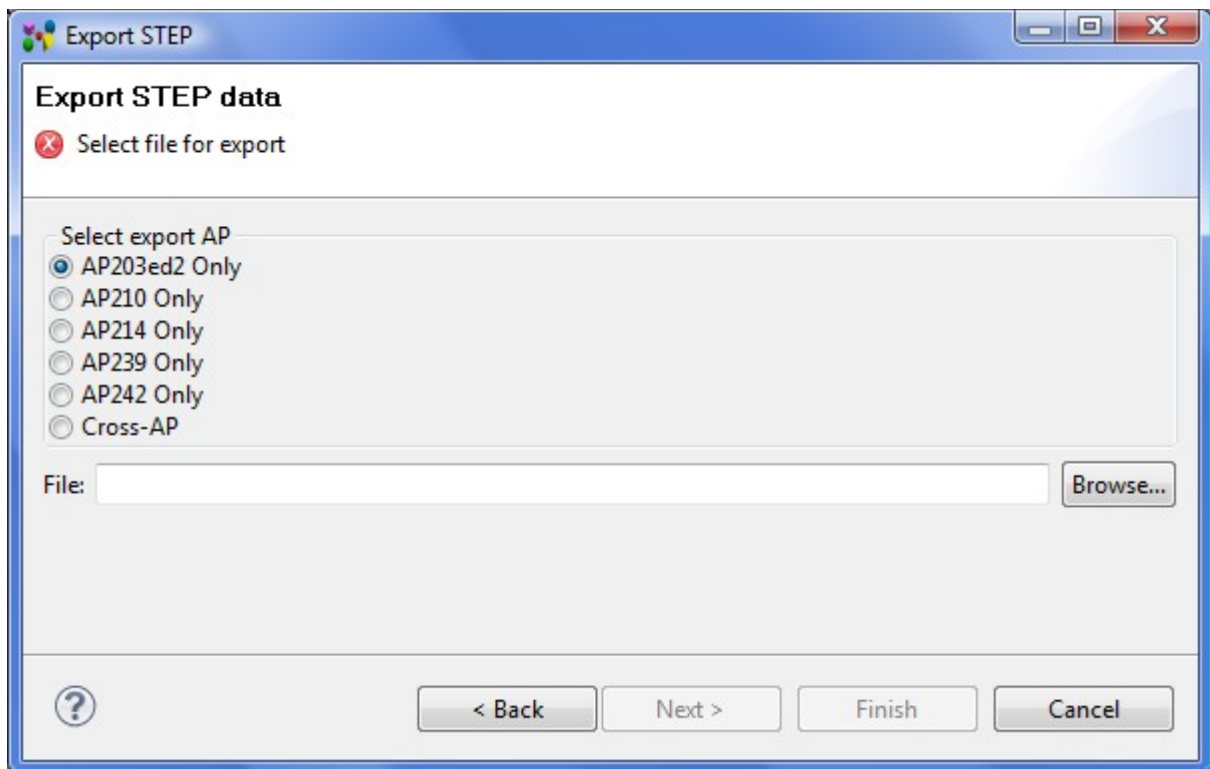

Figure 1. Export STEP dialogue window
- The **Export STEP** wizard dialogue window appears on the screen (see Figure 1):